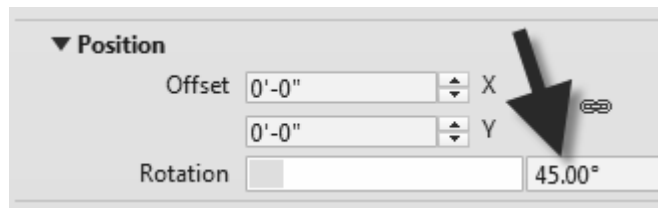

FIGURE 4-4.13 Rotate texture 45 degrees
49. Adjust the rotation of *Ceramic* and *Relief Pattern* to **45** degrees (Figure 4-4.13).